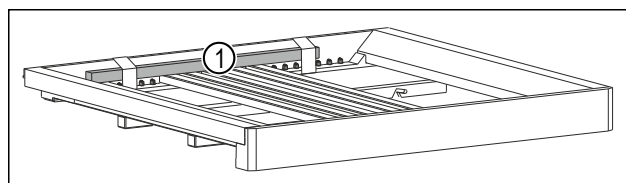

Fig. 5 *
- ▶ Remove the wooden stick Fig. 5 (1).*